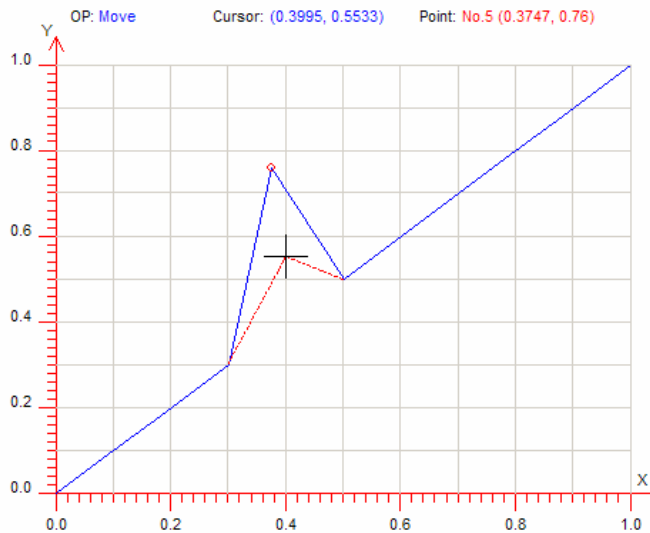

Figure 8.2.72 Move Points on the Curve
**MOVE POINT**  This function allows the user to move a point on the curve. After clicking this button, the user may move the mouse in show curve window. The program labels the point that is the closest to the cursor with a small circle. The user clicks the left mouse button to select the point. The circle turns red. The user may click and drag the mouse to move the point to a desired location. Release the left mouse button to keep the point at the new location. See figure 8.2.72 for a typical move point operation.